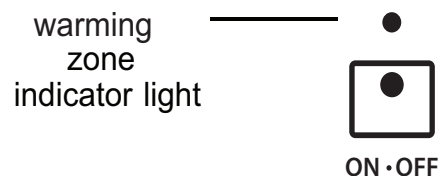

Figure 18: Warming zone indicator light glows when active
2. Press **warming zone ON-OFF**. The warming zone indicator light will turn on. (Figure 18)